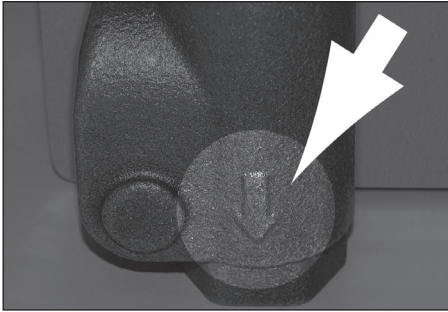

Figure 1
1. Install the Control Unit on the cold water supply piping with the arrow on the valve pointing toward the direction of flow, towards the water heater. **Figure 1**